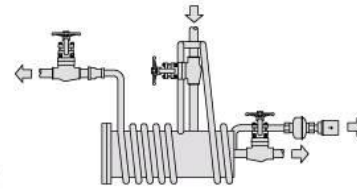

Figure 8-14:
- Fig. 8-14 Heated sampling point